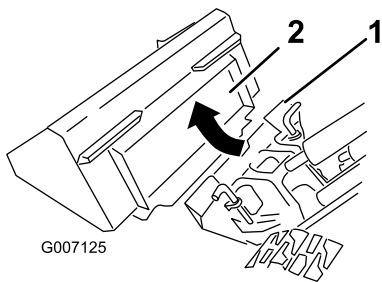

Figure 33
4. Position mount plate into the upper lip of the attachment receiver plate (Figure 33).